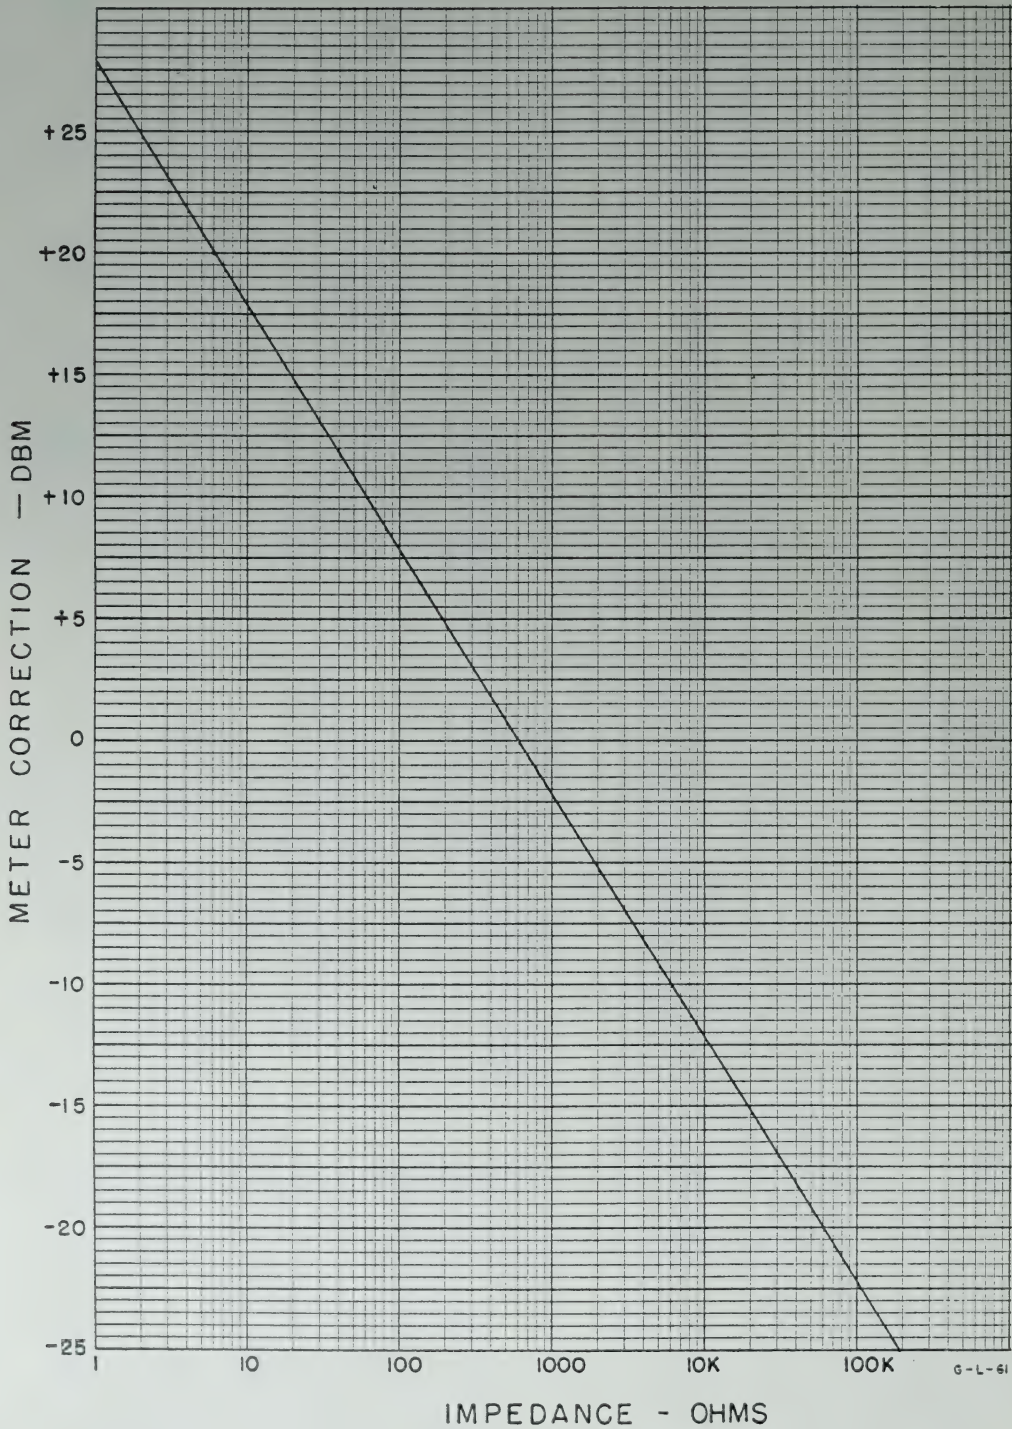

Figure 2-6. Impedance Correction Graph
d. If the impedance of the signal source is other than 600 ohms, the dbm level is obtained by applying a correction factor to the algebraic sum of meter indication and setting of METER RANGE switch. To find correction factor, refer to Impedance Correction Graph shown in figure 2-6.
In figure 2-6, find the intersection of the impedance of the signal source and the diagonal line. Read the correction factor on the vertical axis. Examples:
+8 (correction factor from figure 2-6)
-20 (correction factor from figure 2-6)